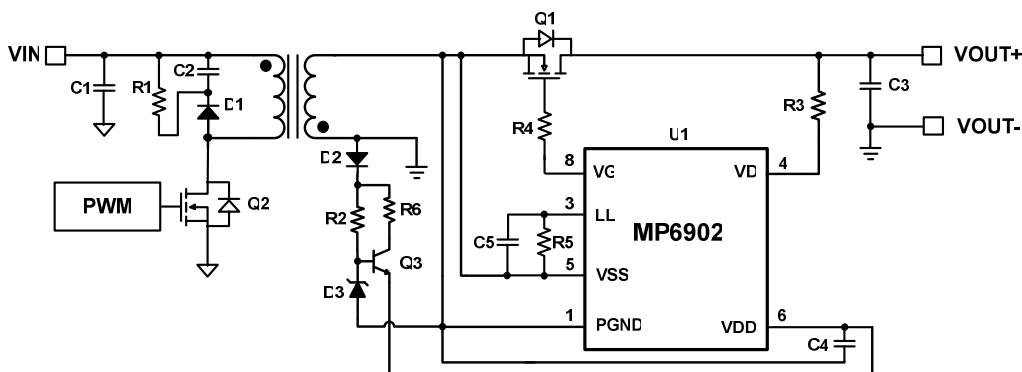

Figure 5 — Non-auxiliary Winding Power Solution for MP6902
Figure 5 shows another non-auxiliary winding power solution for MP6902, R2, R6, D3, Q3 forms an external LDO circuit, in which D3 provides the output clamp of the LDO, R6 (typical <1kΩ) limits the LDO current, while R2 provides the turn on signal for Q3, which can be selected as several tens kΩ. The D2 can also be connect to system output voltage (VOUT+) instead of transformer winding, when the LDO output is not high enough to power the VDD.
- Design the V_{DD} power supply derived from secondary transformer winding as figure 5 shows.